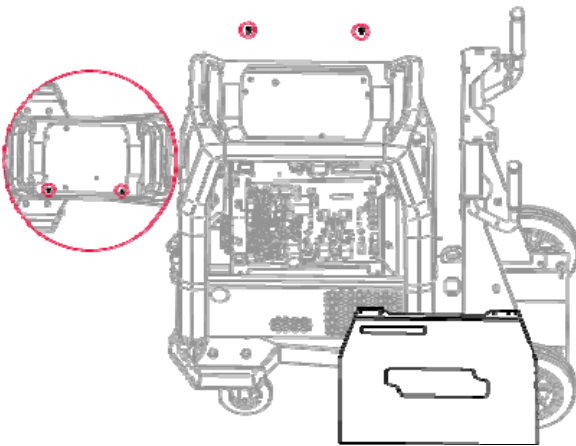

Figure 3
- Unscrew and remove the Speedtec side cover – unscrew the two M5x20 screws (Figure 3)